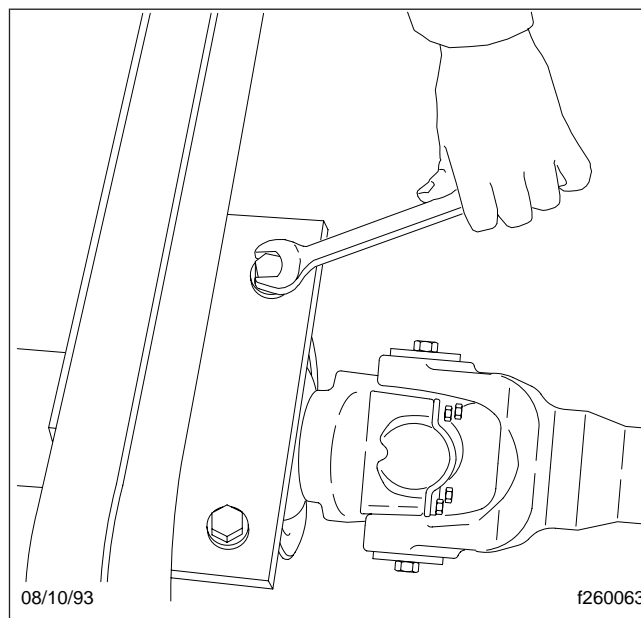

Fig. 2, Midship Bearing Fastener
- 5.1 Remove the bolts holding the aft midship bearing bracket. See Fig. 2.